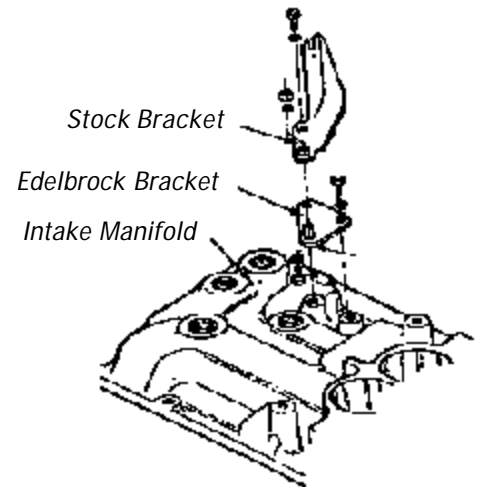

Figure 1 - Bracket Assembly
- **BRACKETS:** A throttle mounting adapter plate is supplied with each manifold to adapt both early and later type throttle brackets to our manifolds, as shown in Figure 1.